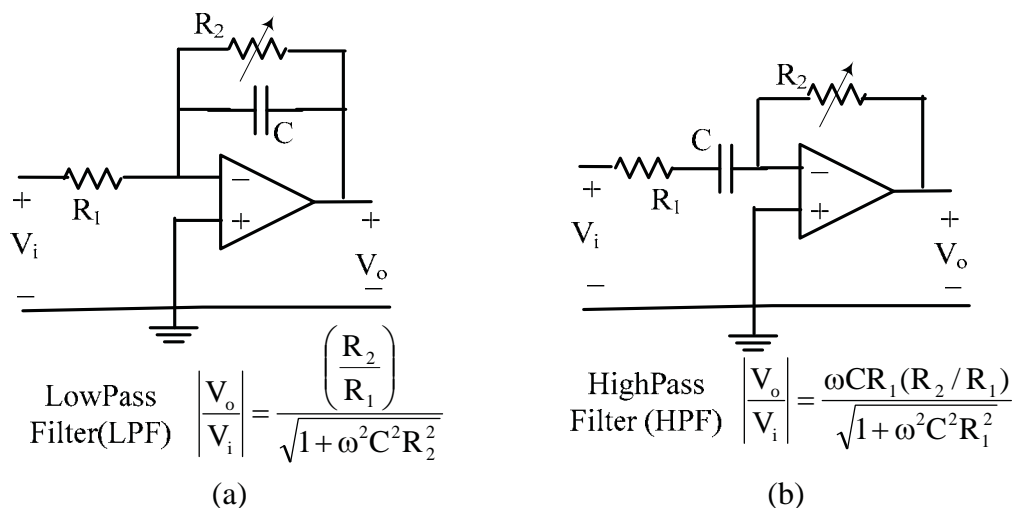

Figure 3.2
AC opamp circuits : The presence of a linear operating range (see Appendix-B) in opamp circuits is particularly evident when an AC (sinusoidal) input is used : As the input signal amplitude is increased, 'limiting' of the output voltage waveform can be clearly observed when displayed on an oscilloscope. An important AC application is in the area of 'electrical filters', which are circuits designed to obtain frequency-dependent gain characteristics which allow the transmission or rejection of certain frequency bands.. Opamp filter circuits generally incorporate RC networks as seen in the circuits shown in Figure 3.2 (a) & (b). The circuits shown are those of basic first-order 'low-pass' (LPF) and 'high-pass'(HPF) filters, which are used to 'filter out' high-frequencies and low frequencies, respectively.
8. Build the LPF circuit (with unity DC gain) shown in Figure 3.2 using the basic setup of Figure 3.5. The LPF circuit will result if the  $0.1\mu\text{F}$  onboard capacitor is connected across the feedback resistor by simply adding the two links P and Q shown as dotted lines in Figure 3.5. Keeping the input to the LPF constant at 2 volt RMS, vary the frequency and record the RMS output voltage at 100, 200, 500, 1000, 5000 and 10,000 Hz. Use the data table to record the frequencies and voltages. [Use the 'RMS' & 'Frequency' measurement functions on the DSO].